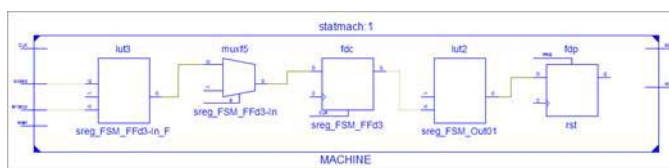

Figure 5-19: Upper Hierarchical Level
7. Press the Pop button to cross hierarchy in a bottom-up direction as shown in Figure 5-19.